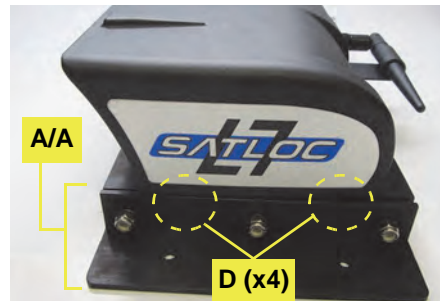

Figure 2a: Lightbar on brackets (A/A shown)
- a. Using hardware D (not visible), attach the lightbar to the assembled brackets (Figure 2a - A/A bracket combination shown).